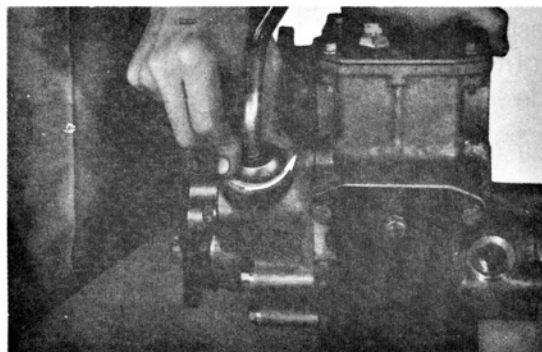

Fig. 3-6.
8) Remove the transfer gear control lever assembly from the transfer gear front case in the following manner: Turn the gear control lever guide to the left while pushing it down as shown in the Fig. 3-6.
9) Take out the eight (8) 8mm nuts attaching the transfer gear front case and lightly tap the case with a wooden hammer.